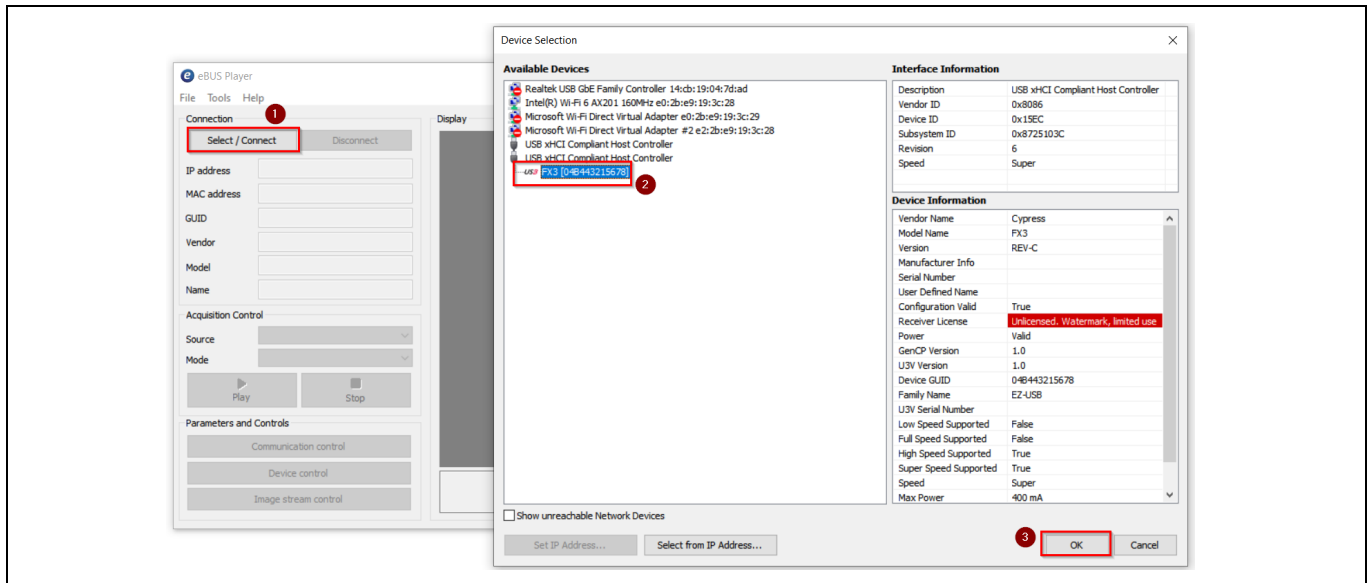

Figure 11 Selecting USB3 Vision device in eBUS Player application
- Click Select/Connect from the eBUS Player. Check if FX3 is detected as shown in **Figure 11**.